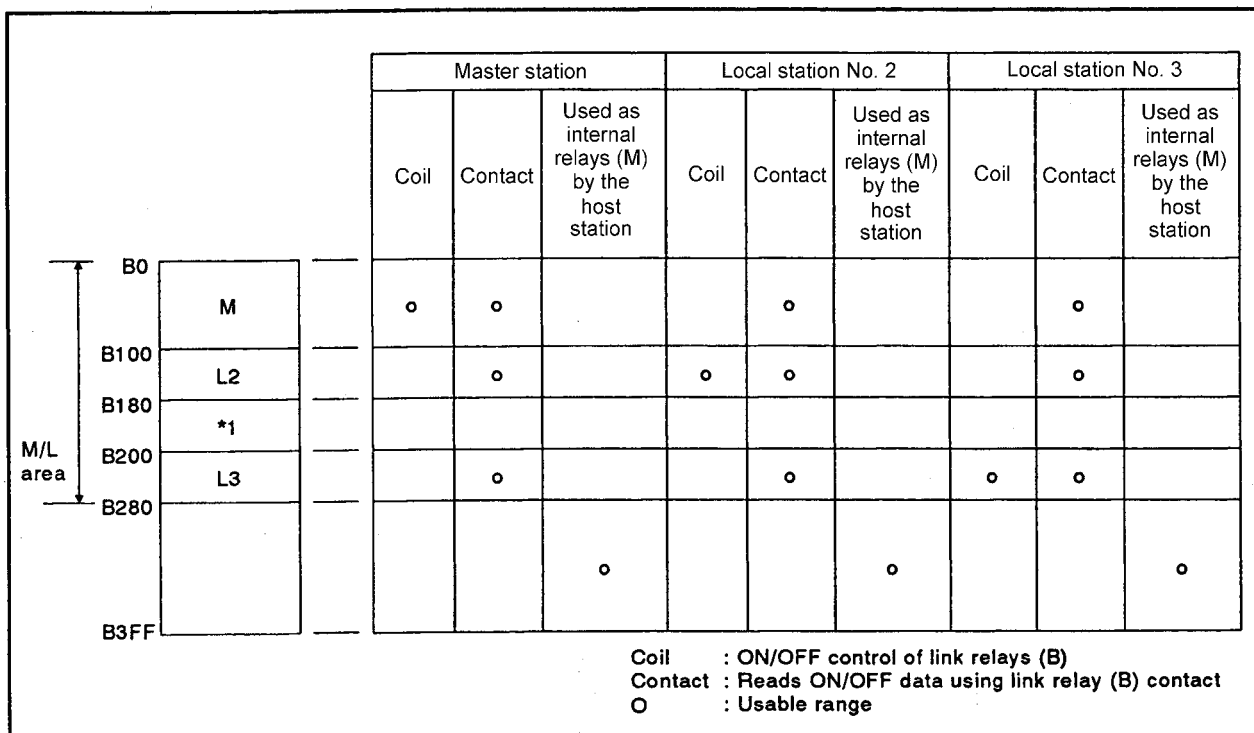

Fig 7.17 Link relay (B) assignment example
(1) Assignment of link relays (B)
- (a) Fig 7.17 shows the case when assigning 256 points to the master station, 128 points to local station No.2, 128 points to local station No.3, and 128 points empty area between local station No.2 and local station No.3.
- (b) The empty area marked with *1 in the M/L area in Fig 7.17 cannot be used as a substitute for internal relays (M) in the master station and all local stations. The M/L area is the range (B0 to 27F) from the minimum device number to the maximum device number assigned by the link parameters.
(2) Assignment of link registers (W)